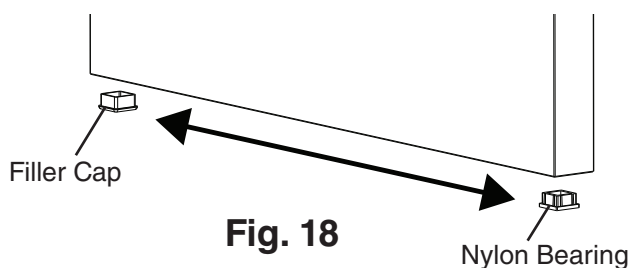

Fig. 18
- 10) Remove the filler cap and nylon bearing from the bottom of the door. See Fig. 18. Reinstall on the opposite side.